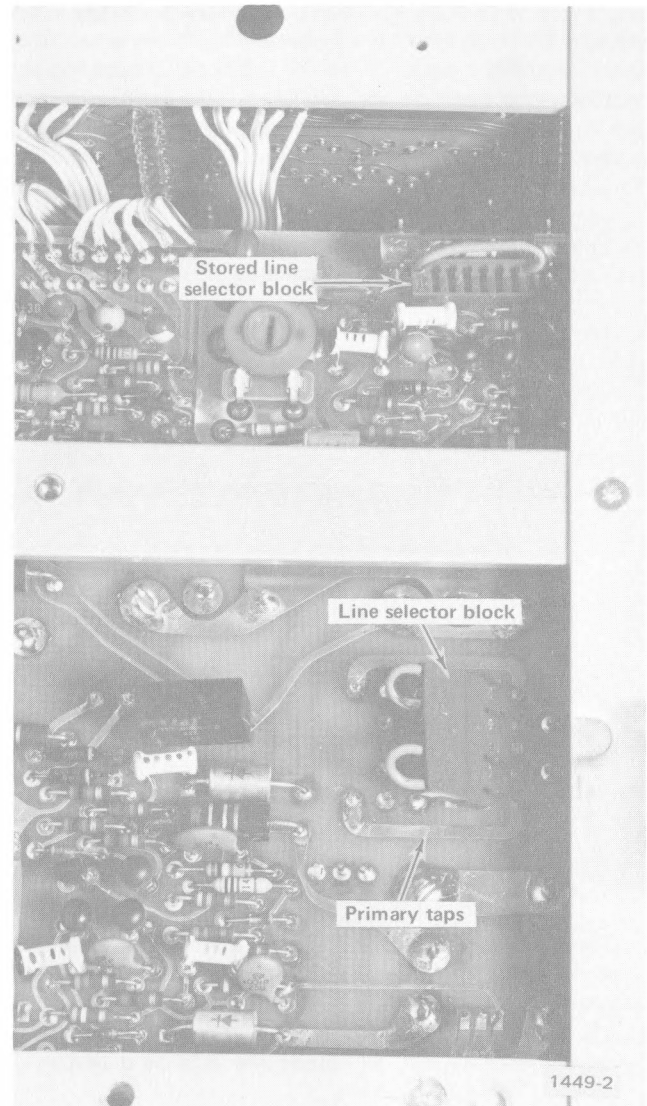

Fig. 2-3. Location of the line-selector block on the Power Supply circuit board.
3. To convert from 120 V to 220 V nominal line voltage, or vice versa, remove the line-selector block from the square-pin connectors (see Fig. 2-3) and replace it with the other block. Remove the line fuse from the fuse holder located on the rear panel and replace it with one having the correct rating. The unused line-selector block and line fuse can be stored on the Power Supply circuit board. Change the line-cord power plug to match the power-source receptacle or use an adapter.